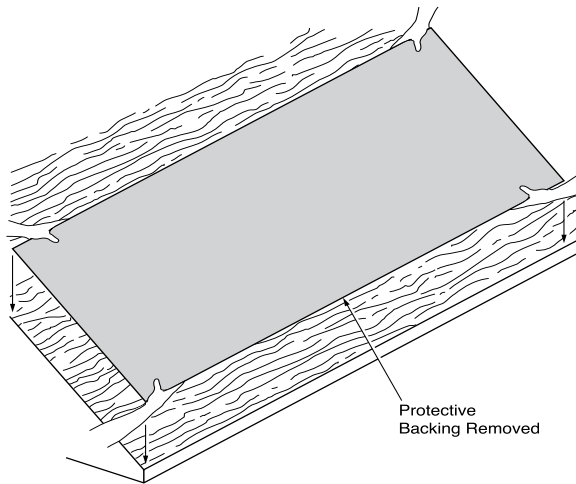

Figure 5-7: Application using the "Fly-In" Method.
- Drop or "fly" the sheet into place, using great care to assure correct placement (Figure 5-7).